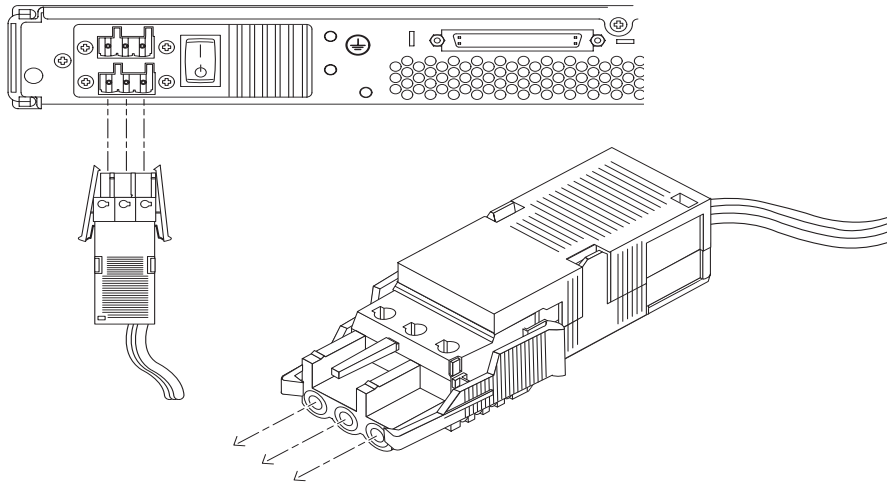
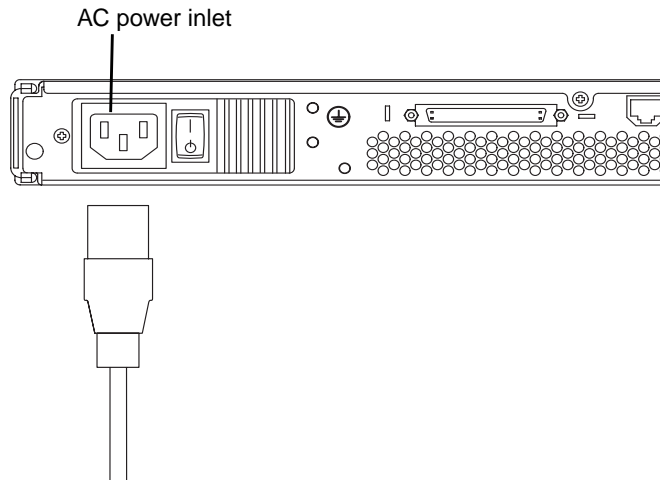

FIGURE 6-3 Model 100: Connecting a DC Power Cord
FIGURE 6-4 Model 105: Connecting the AC Power Cord
- 1. Connect the power cord or cords (see also FIGURE 6-3 and FIGURE 6-4 in the next section, “Connecting the Power Cord(s)” on page 50).**